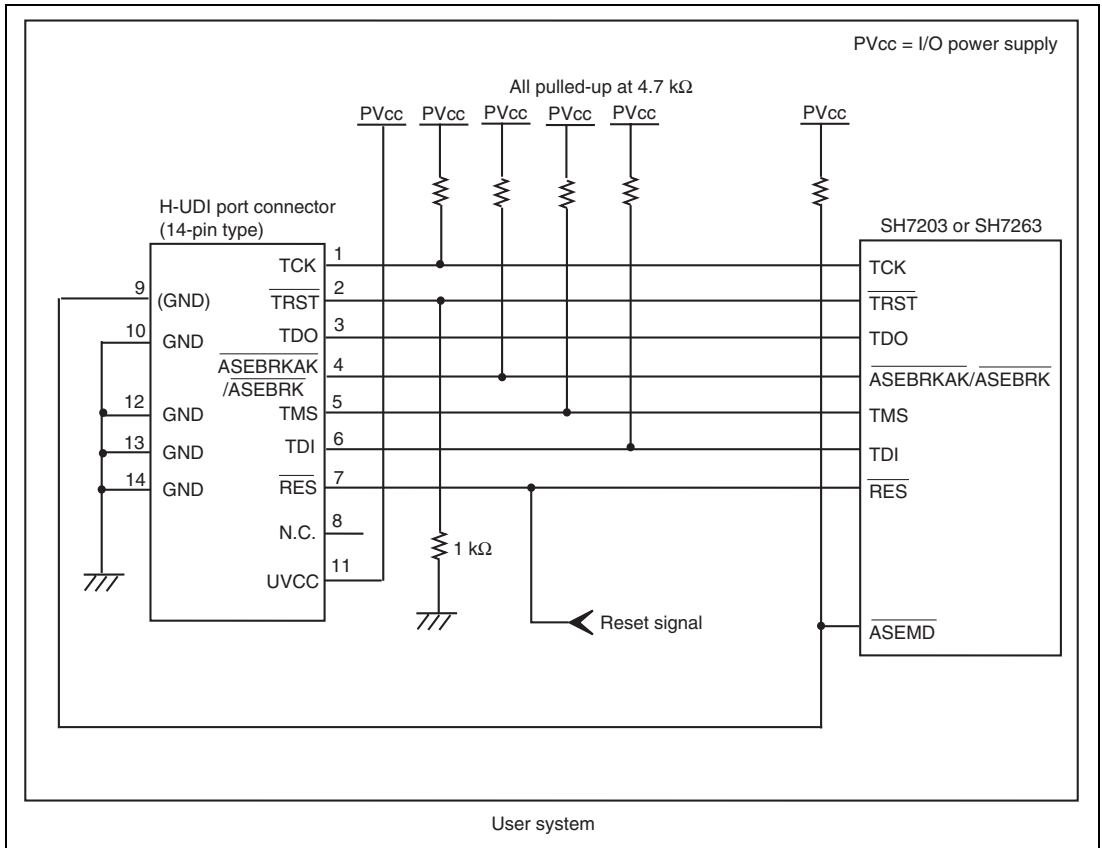

Figure 1.6 Recommended Circuit for Connection between the H-UDI Port Connector and MCU when the Emulator is in Use (14-Pin Type)
Figure 1.6 shows a recommended circuit for connection between the H-UDI port connector (14 pins) and the MCU when the emulator is in use.
- (1) When the emulator is used: ASEMD# = 0
- (2) When the emulator is not used: ASEMD# = 1Figure 1.6 shows an example of circuits that allow the ASEMD# pin to be GND (0) whenever the emulator is connected by using the user system interface cable. When the ASEMD# pin is changed by switches, etc., ground pin 9. Do not connect this pin to the ASEMD# pin.
6. The resistance value shown in figure 1.6 is for reference.
When the circuit is connected as shown in figure 1.6, the switches of the emulator are set as SW2 = 1 and SW3 = 1. For details, refer to section 3.8, Setting the DIP Switches, in the SuperH™ Family E10A-USB Emulator User's Manual.